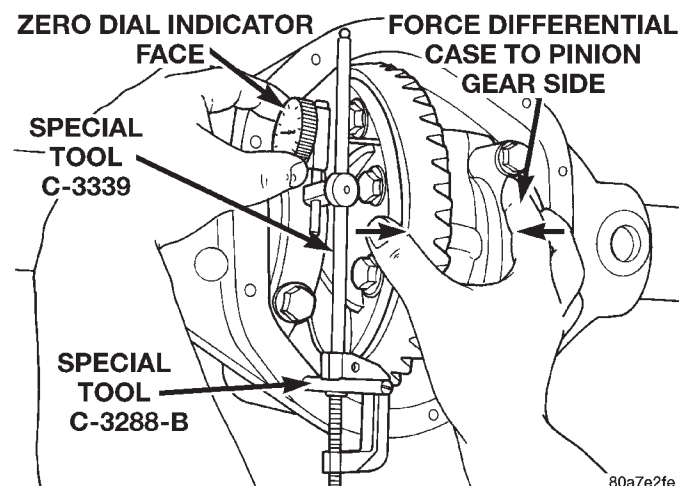

Fig. 76 Hold Differential Case and Zero Dial Indicator
(10) Push and hold differential case to pinion gear side of axle housing (Fig. 76).
(11) Zero dial indicator face to pointer (Fig. 76).